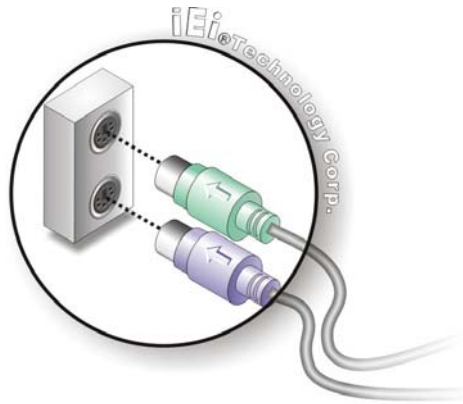

Figure 5–17: PS/2 Keyboard/Mouse Connector
Step 6: **Insert the keyboard/mouse connector.** Insert a PS/2 keyboard or mouse connector into the appropriate PS/2 connector on the external peripheral interface connector. See **Figure 5–17**.